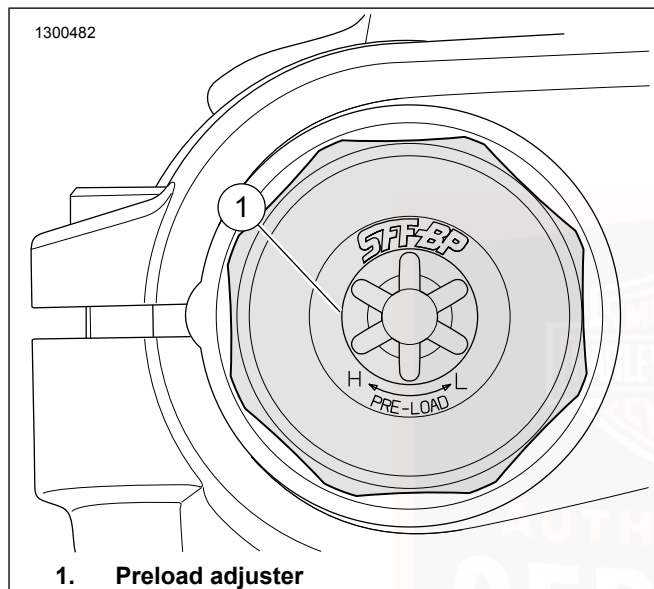

Figure 23. Preload Adjustment
The preload adjustment screw (1) is located on the left fork tube. See Figure 23.
See Figure 23. Turn preload adjuster (1) counter-clockwise in the L (low) direction until it stops. This is the minimum preload setting.